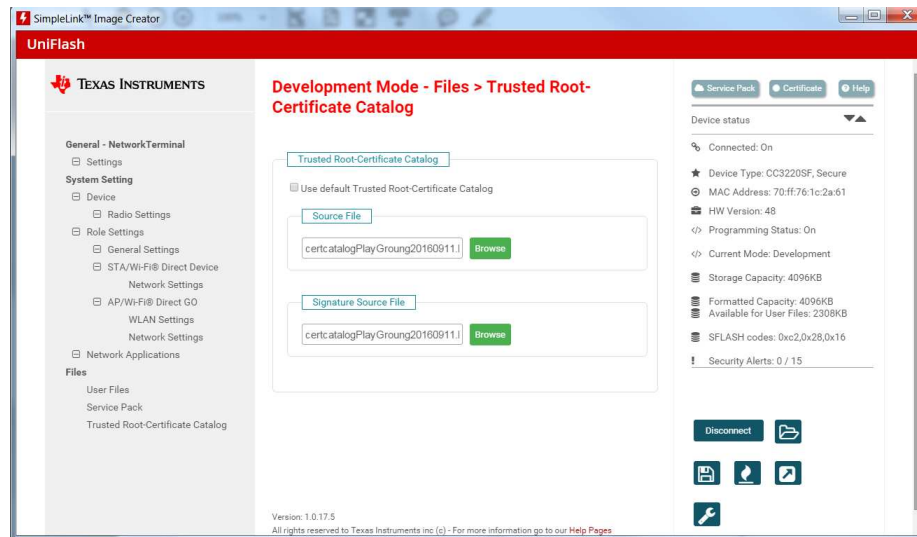

Figure 2-10. Certificate Store
2. Uncheck the Use default Trusted Root-Certificate Catalog checkbox and select Source File (.lst) and Signature Source File (.lst.signed.bin), available at `<sdk-installation>\tools\certificate-playground`, as shown in Figure 2-10.